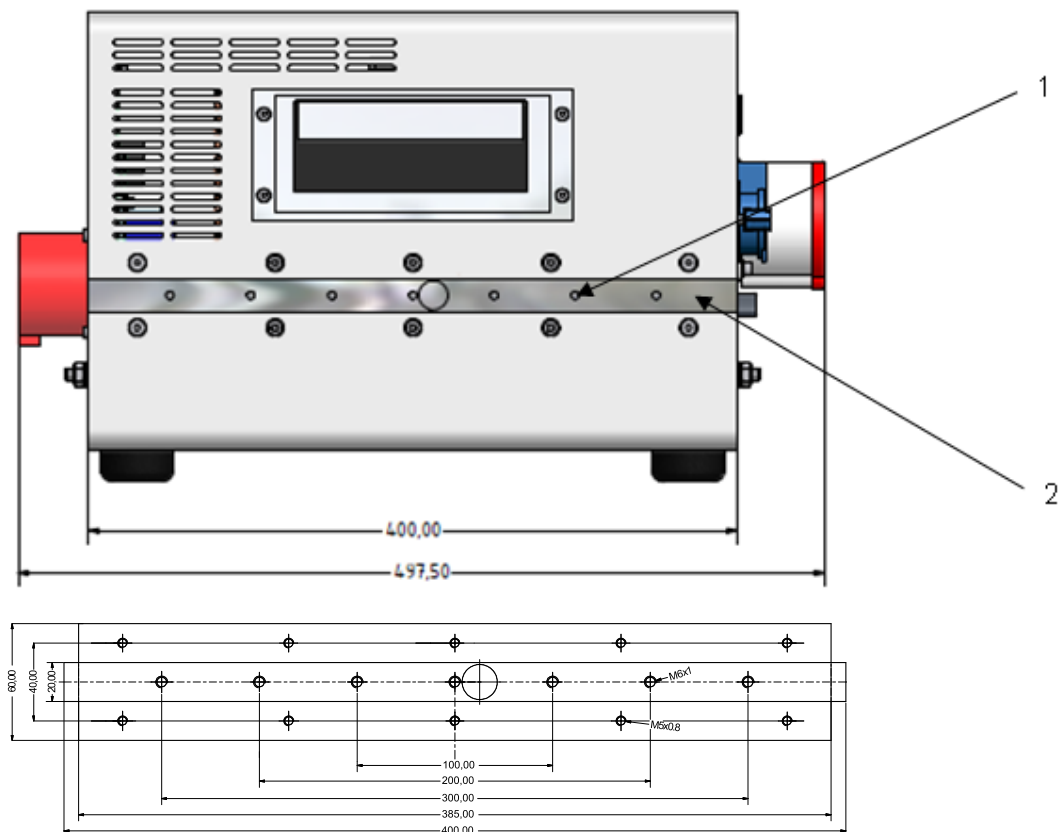

Fig. 3 Connection to RF reference ground
The RF reference ground that is used can be connected flush to the laterally arranged ground bar (2) using a wide metal foil and seven M6 screws (1) (see Fig. 3).